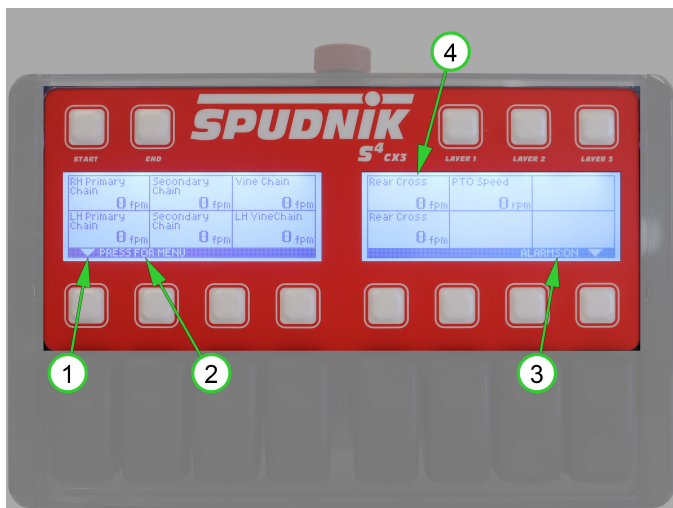

Figure 25
The CX3 is powered on/off using the tractor ignition key. At the completion of the power-on boot sequence, the CX3 displays the Home screens. The Home screens display navigation prompts such as (1) Soft Key Indicator, (2) Navigation Action, and (3) Function Action, as well as ground speed and the (4) speed of various windrower systems. (See Figure 25)